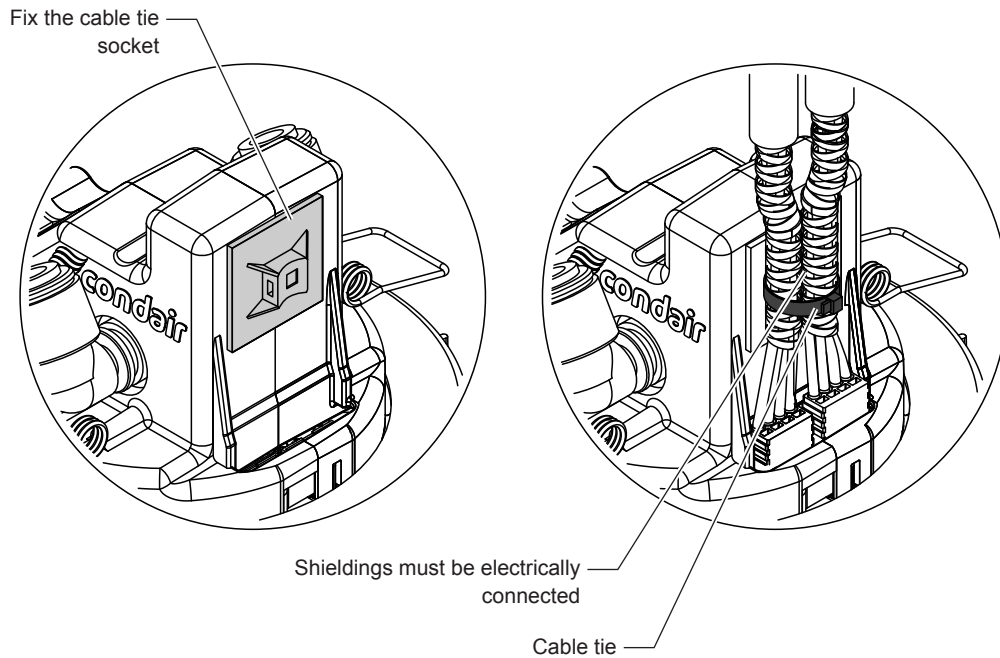

Fig. 7: Connect the CAN bus cable to the humidifier unit
- Fix the self-adhesive cable tie socket (service accessory) to the side of the humidifier unit with the cable connections as shown in Fig. 7. Plug in the two cables and secure them to the cable tie socket with a cable tie.